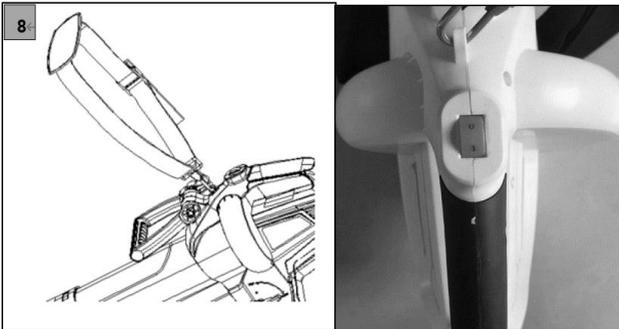

Fig. 8
**Switching on the equipment (Fig. 8)**